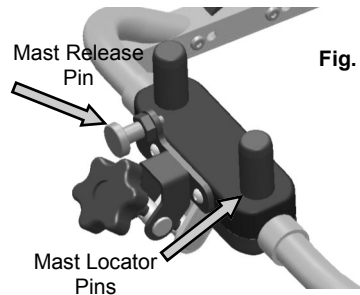

Fig. 4
- Locate mast release pin on base frame (fig. 4). Pull pin outward and twist until pin is locked in the open position.